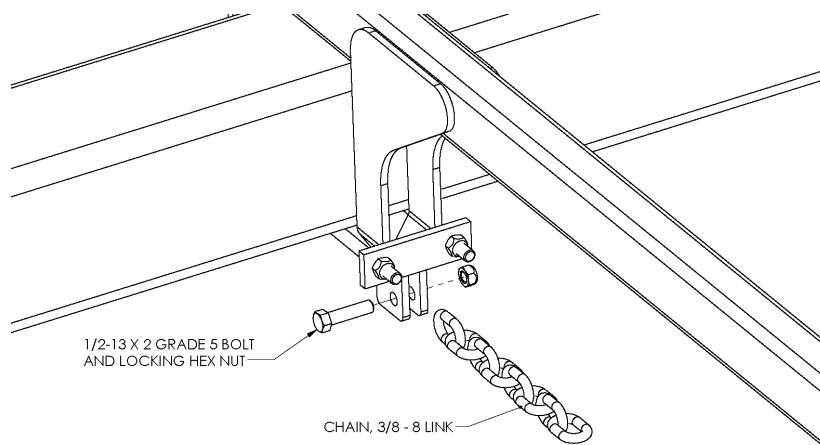

Figure 10
1. Bolt an 8-link pull chain (10-link for 8-bar section option) in between each of the lift arm pull points Use 1/2" x 2" grade 5 bolts and locking hex nuts. Refer to Figure 10.